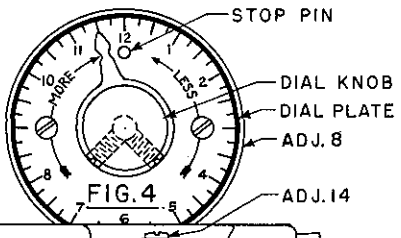

FIG. 4
35. Now set regulator for depth of needle penetration with needle over the rib, and work apron set so that the needle is raised $1/64''$ above needle guide. Set dial knob so that pointer is against stop pin at 12 on the dial. To make the setting loosen two set screws in the dial knob and turn the pointer to come in contact with the left hand side of the stop pin and tighten the set screw. See Adjustment 8, Figure 4.